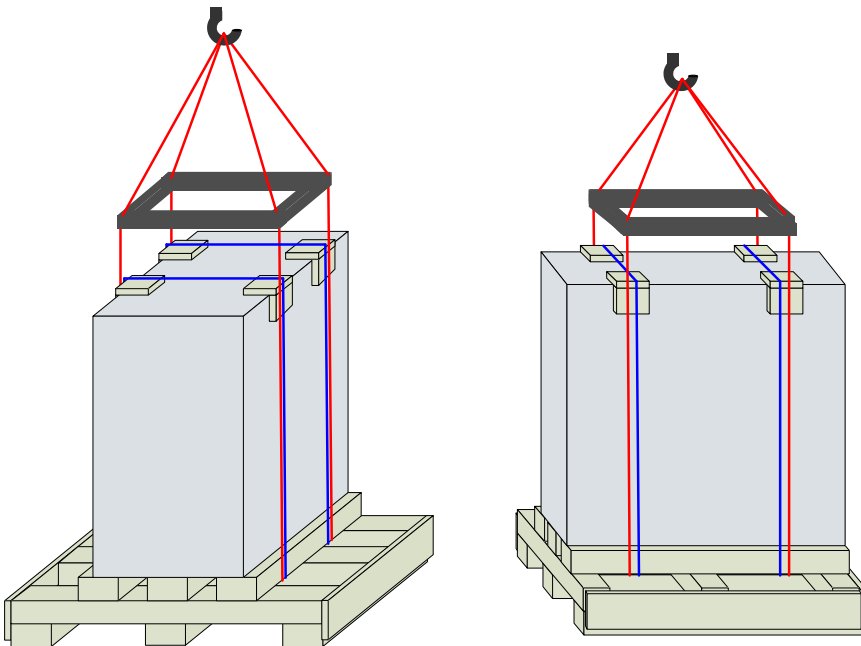

Figure 4-13 Transport methods – straps and positioning of ropes
- Use of crane eyelets (Figure 4-13)